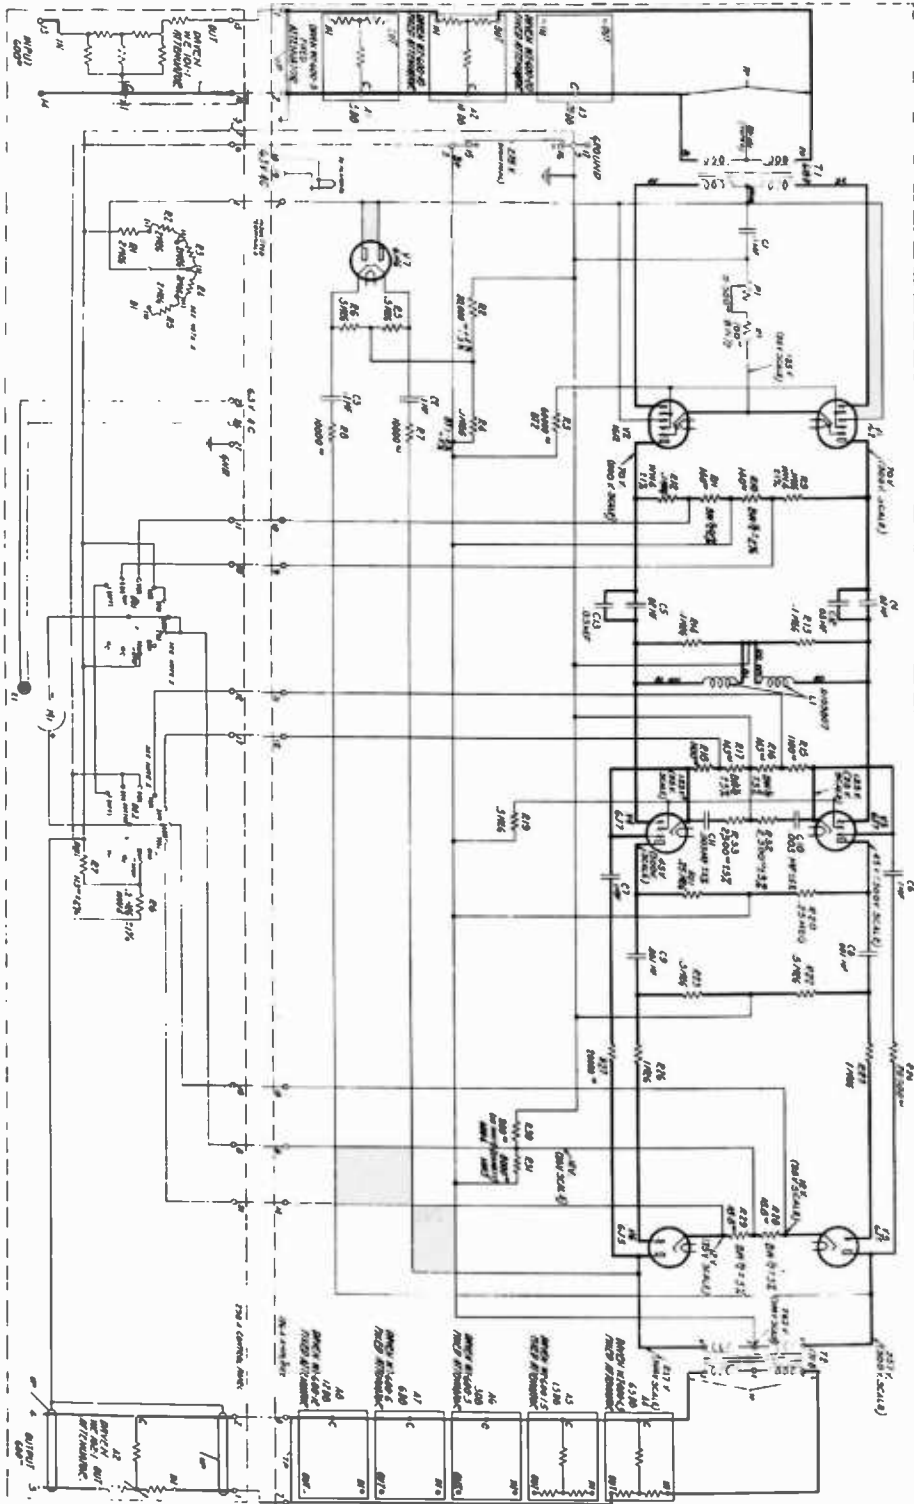

Figure 1 - Schematic - 126A Amplifier and 298A Control Panel
1. Apply 1000 cycle tone across the insulated terminal of the 126C Amplifier or the 298A Control Panel, and ground (See Figure 1). Approximately 2 volts from an impedance of less than 500 ohms should be obtained from the oscillator for this adjustment. Potentiometer P2 on the 126C Amplifier should then be adjusted to give minimum reading of the output volume indicator meter.